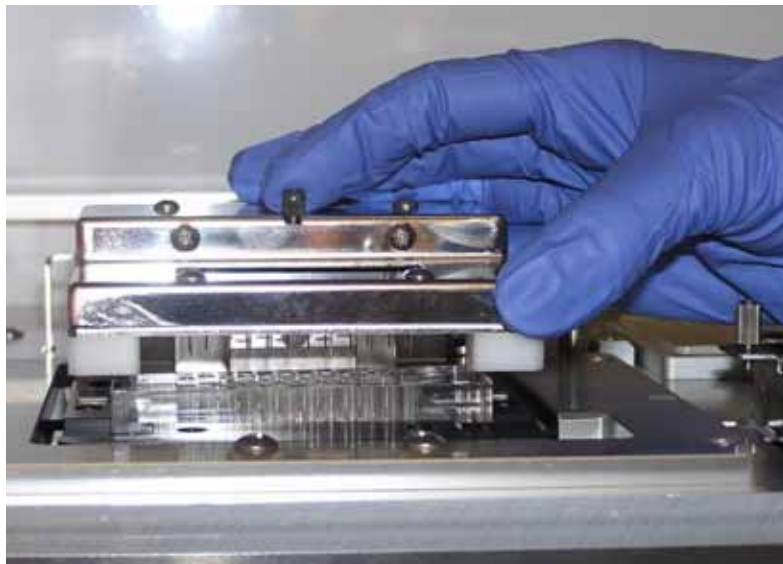

Figure 2.27 Releasing the fixture after a completed run.
- a. To release the fixture after the run is complete, press the lever in the center top of the device towards yourself with your index finger as shown in Figure 2.27.